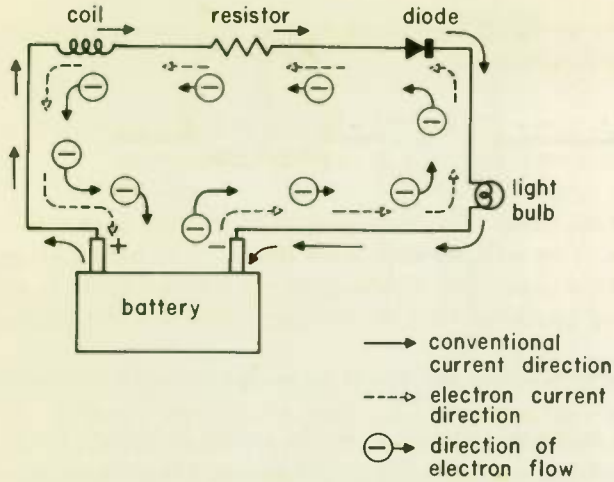

Fig. 11 Electron flow direction and current direction. The conventional current direction, used by engineers, is opposite to the direction of electron flow.
Consider the circuit of Fig. 11. One way to trace around the circuit is to start at the positive terminal of the battery and trace around until you come back to the negative terminal, as shown by the solid arrows. Engineers that trace in this direction (that is, from positive to negative) are said to use *conventional* current direction.
The alternate way to trace around a circuit is to start at the negative battery terminal and trace around to the positive terminal, as shown by the dotted arrows in Fig. 11. This tracing direction is called the *electron* current direction. It is named from the fact that this is also the direction that the free electrons that carry the charges move in the circuit.
12. Refer to Fig. 11. The direction of current flow in the circuit, as assumed by C.I.E., is counterclockwise because